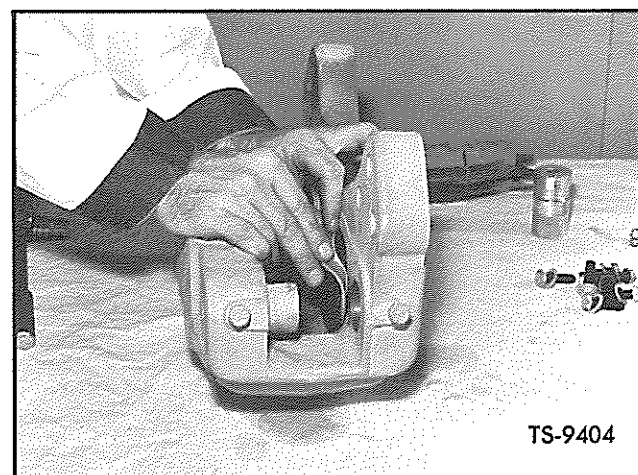

Fig. 26. Reinstall Rubber Boots
19. Reinstall rubber boots in cylinder bore grooves as shown in Figure 26.